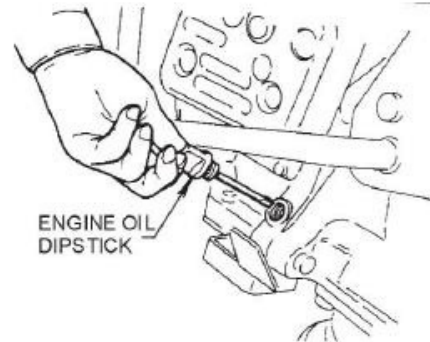

Fig 4
3. Check the engine oil level (Fig 4) and if the engine oil level is low, it should be refilled. Use the proper motor oil as suggested in the Table below.